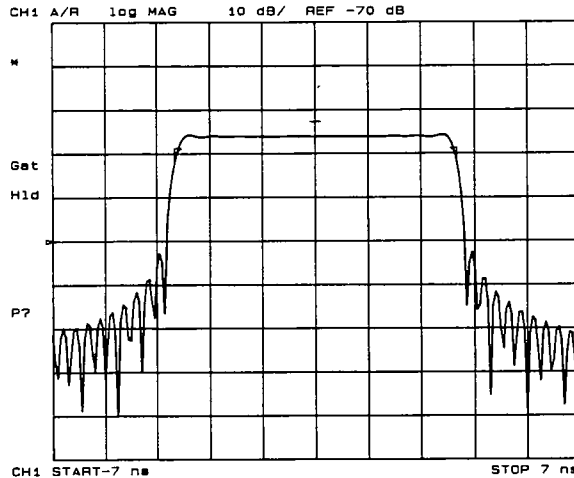

Figure 8-15. Gate Shape
**Setting the Gate.** Think of a gate as a bandpass filter in the time domain (Figure 8-15). When the gate is on, responses outside the gate are mathematically removed from the time domain trace. Enter the gate position as a start and stop time (not frequency) or as a center and span time. The start and stop times are the bandpass filter  $-6$  dB cutoff times. Gates can have a negative span, in which case the responses **inside** the gate are mathematically removed.